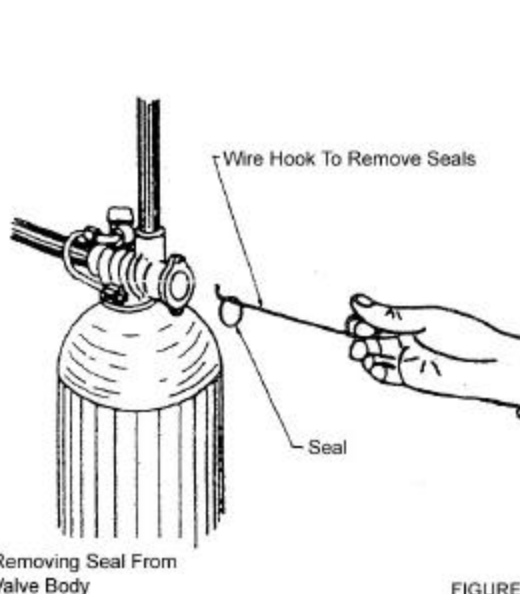

FIGURE 2
6. Remove the seal first using the wire hook with the finger loop (see Fig. 2)